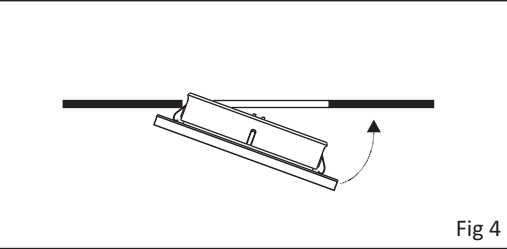

Fig 4
- The light must be anchored to the metallic bracket by inserting first one spring and then the other, applying slight pressure until completely fitted as illustrated in figure 4.